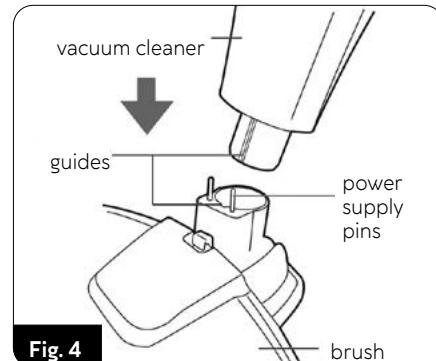

Fig. 4
6. Install the electric brush (14) in the lower slot of the main handle. Pay attention to the delicate power supply pins so as not to damage them. The main handle is equipped with a guide for mounting the electro-brush in one correct position (fig.4).